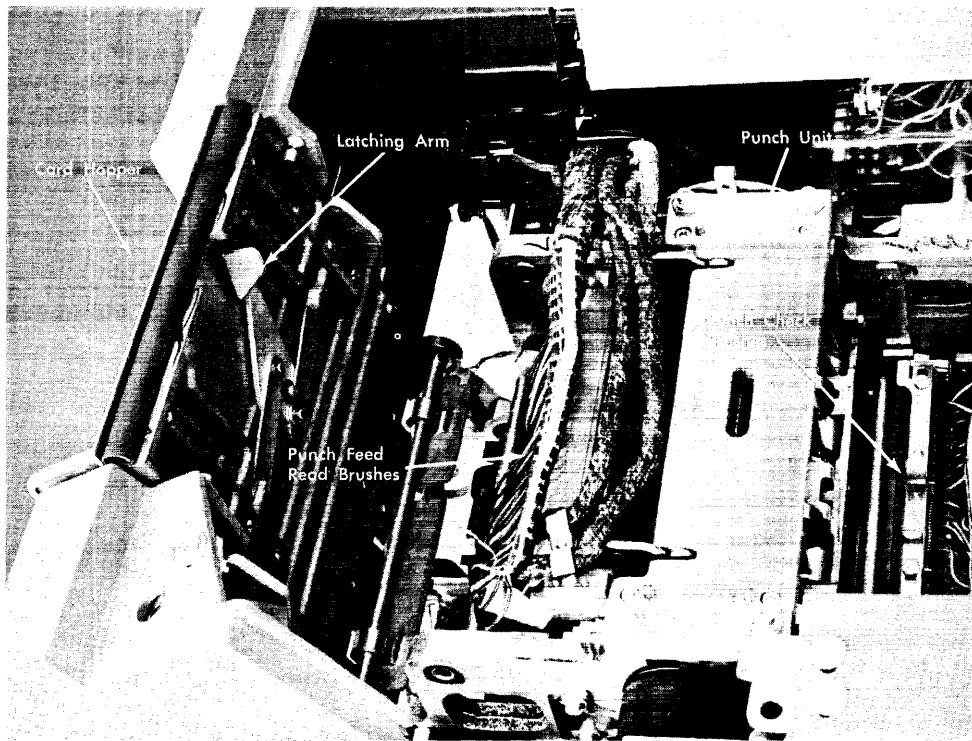

Figure 13. Punch Feed
2. Slide back the top cover to make the punch check brushes accessible (Figure 13).